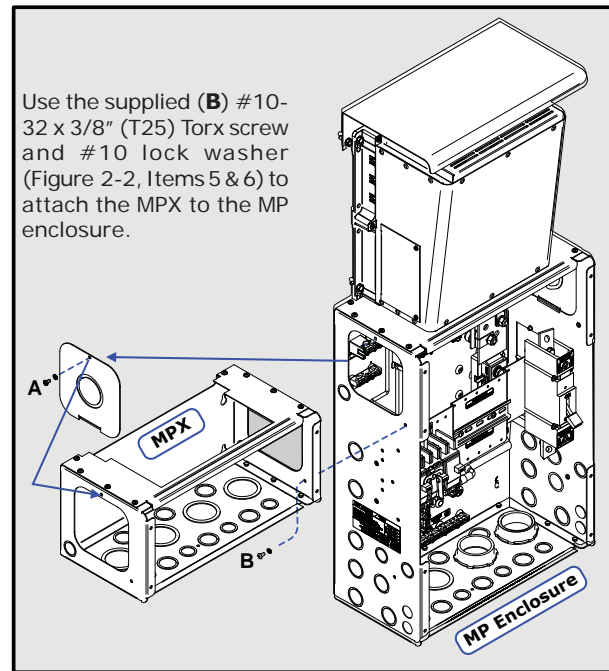

Figure 3-5, Attaching the MPX to an MP Enclosure
1. On the upper side of the MP enclosure, remove the side access plate – the side to which you will attach the MPX (see Figure 3-5).